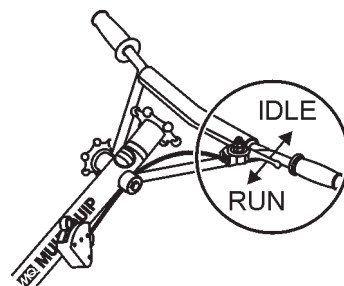

Figure 27. Throttle (Run Position)
- To begin troweling, push the throttle lever (Figure 27) toward the "RUN" position.